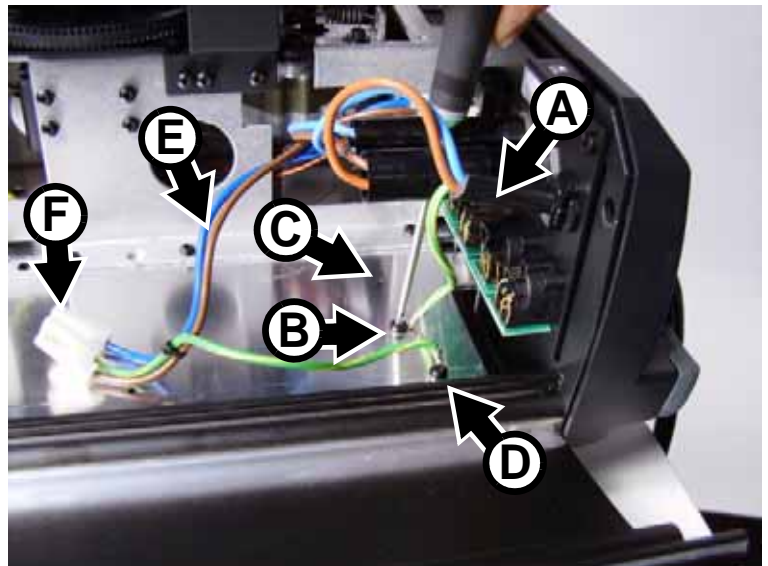

Figure 18
19. See Figure 18. You must now relocate the mains input cable ground (earth) lead to make space for the new ballast. First, strip some of the outer insulation from the mains cable at **A**.
20. See Figure 18. Unscrew the Torx 20 screw **B** (P/N 08070701) that fastens the lead to the metal base plate. Throw this screw away. Move the mains input cable ground lead to the existing hole **C** in the base plate and fasten it to the base plate with one of the new Torx 20 screws, P/N 08070701, supplied in the Upgrade Kit (see “V” in Table 1). To make sure the lead does not foul the new ballast, fasten the screw with the lead trailing out towards the fixture’s XLR connectors.
Warning! For safety reasons, the two ground (earth) leads – one from the fixture’s mains input cable and one from the mains filter on the ballast assembly – shown at **B** and **D** in Figure 18 **MUST** be fastened to the base plate separately with two separate screws when the new ballast assembly is installed. **DO NOT** take a short-cut and use one single screw to fasten these two ground leads to the base plate together, or you will create a safety risk, void the product warranty and make the product illegal.
40. See Figure 36. Stand the fixture upright again and fasten the mains filter ground lead to the base plate, re-using the original screw in the hole arrowed in Figure 36 and shown at **D** in Figure 18 on page 10.